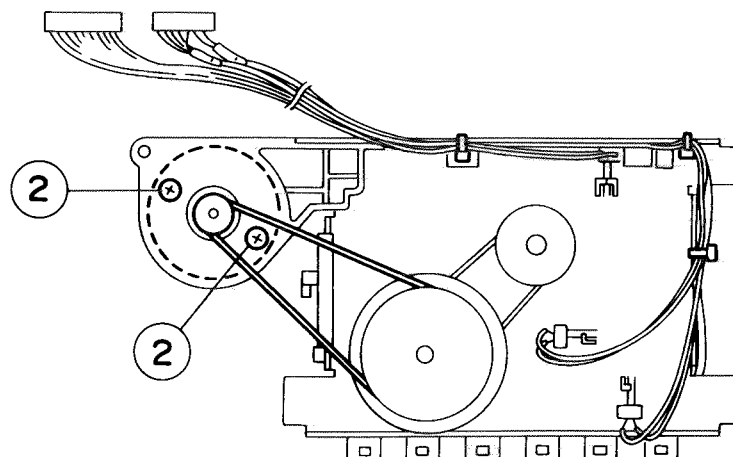
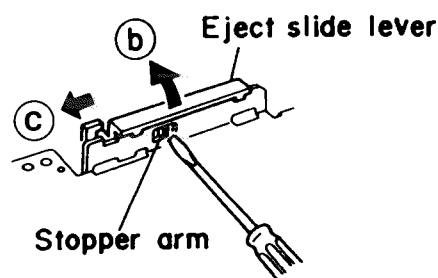

Fig. 2-21
Fig. 2-22
■ Capstan motor (Fig. 2-21)
6. Remove two screws ② retaining the Capstan motor from the back of the cassette mechanism.
■ Eject slide lever (Fig. 2-22)
1. Place the cassette mechanism back side frontward and disengage the stopper arm ① of the Eject slide lever by pressing it inwards through the opening of the chassis with a small screwdriver as shown in Fig. 2-22.
2. Disengage the Eject slide lever in the direction of arrow ③.